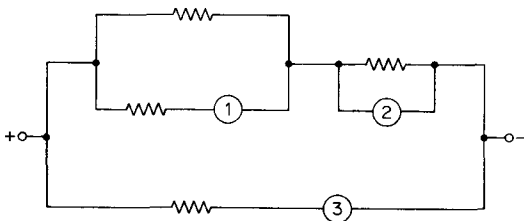

Fig. 2.105
33. In Fig. 2.105 state which circles represent ammeters and which represent voltmeters.